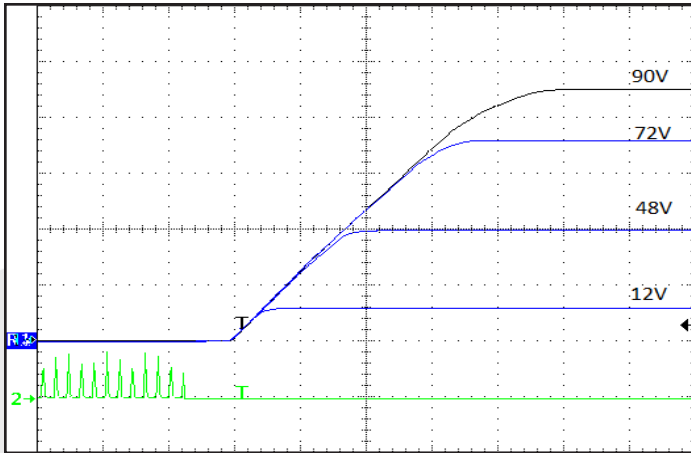

Figure 7: Turn-on transient at 28V input and full load. Top Traces: Vout (20V/div), Ch2: ON/OFF input (5V/div). Timescale: 10 ms/div.
**REMOTE ON/OFF:** Only Negative On/Off logic is available in the converter series: logic high at the input turns the converter Off while a logic low turns in On. Timing of this is shown in Figures 7, 8. A high level can be driven to any voltage between 1.5V and 3.3V, or simply left floating as the unit contains an internal 25KΩ pull-up to 5.0V. The pin can be pulled low (to Vsense-) by an optocoupler, an open-source/drain transistor or wired permanently to Vsense-. To provide noise immunity the input has 0.3V of hysteresis.